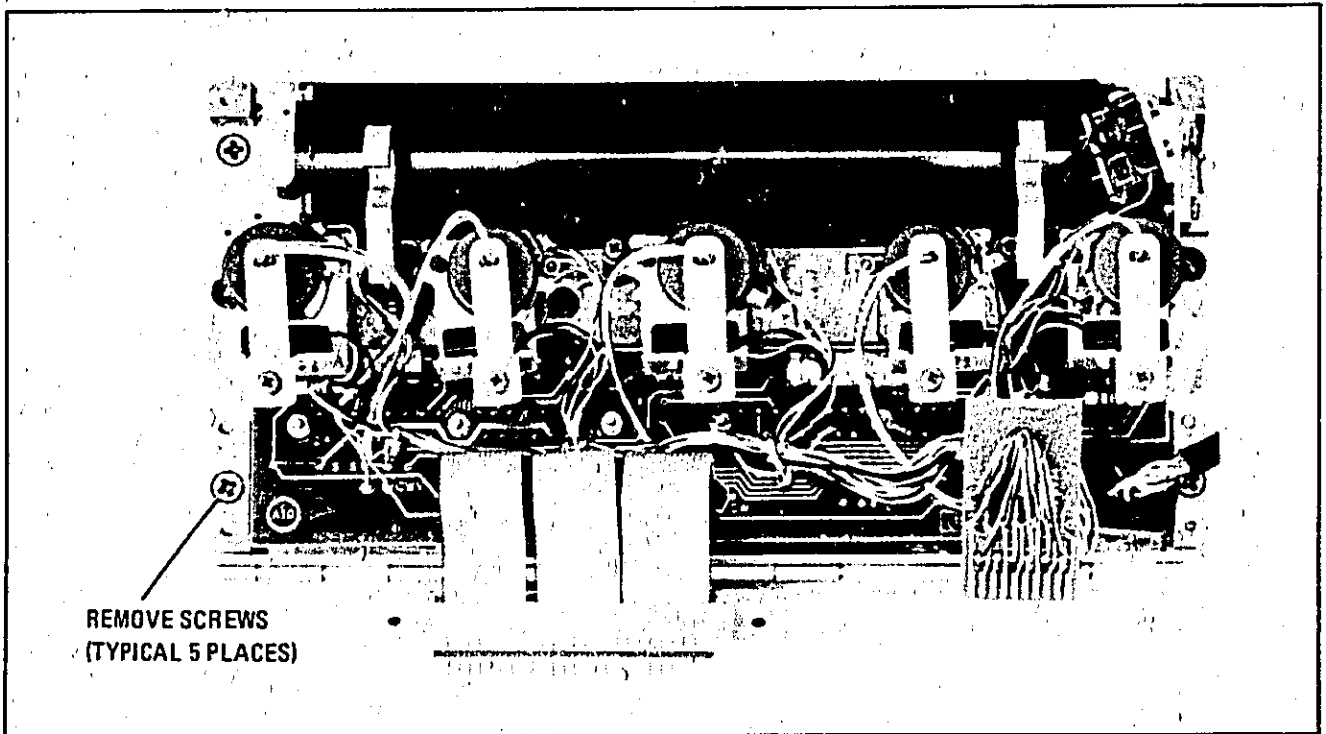

Figure 8-2. Removing Dial Frame From Front Panel
c. Remove five screws holding dial frame to front panel (Figure 8-2).